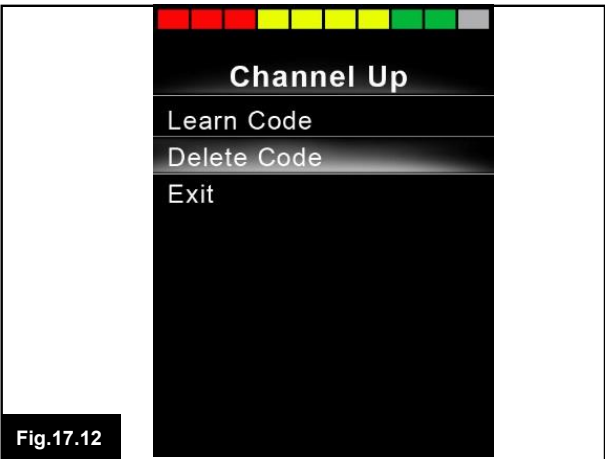

Fig.17.12
17.4.3 Deleting IR Codes (Fig 17.12 to 17.14)
To delete an IR Code for a specific Command, highlight the specific Command in the Appliance menu and press the right button. Then select the Delete Code option, Fig 17.12.